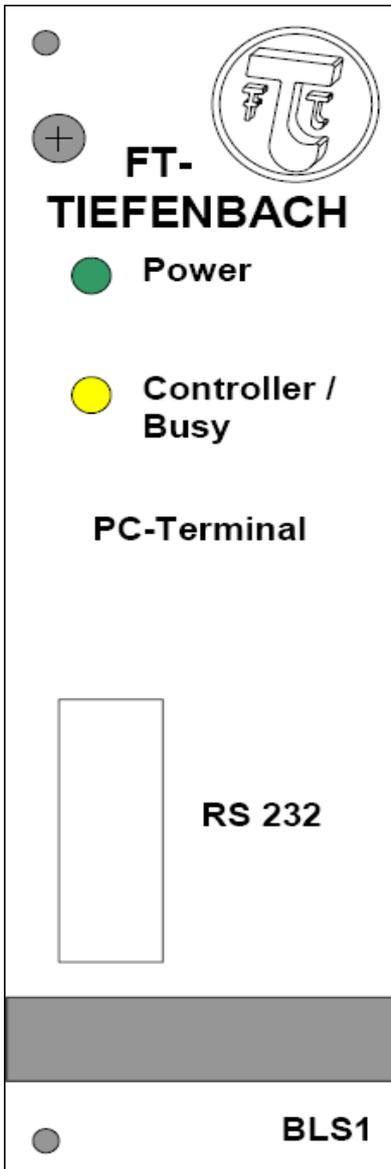

Fig.4:
**Figure 4** shows the front plate. The front plate is provided with light-emitting diodes indicating the operating state and an interface connection for programming the card parameters.